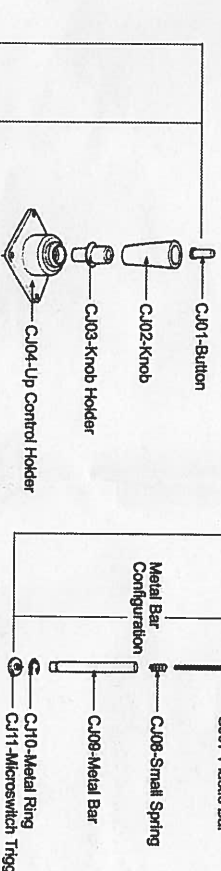

Figure 2
- 2) Ordinarily, insert those components into the Metal Bar(CJ09); *Show as Figure 2*